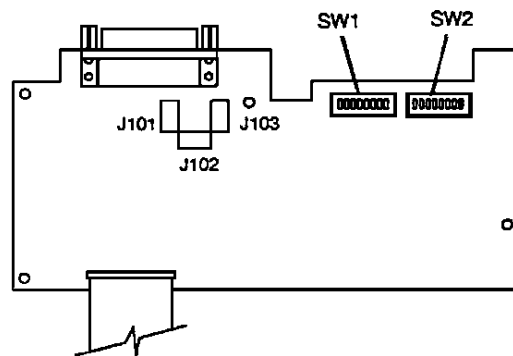

FIGURE 13 - SW1 AND SW2
3.6.4 Figure 13 shows the location of SW1 and SW2 on the Printer Interface PCB.